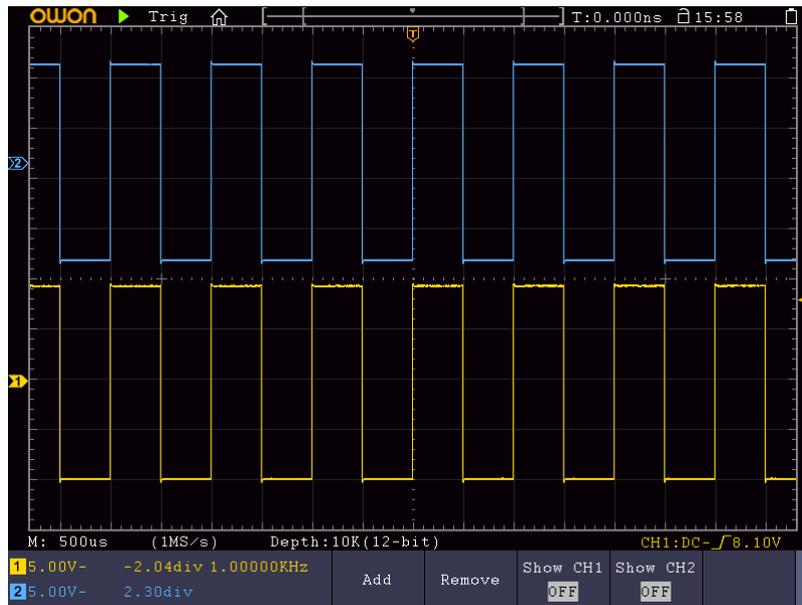

Figure 9-2 Waveform of Gain Measurement
- (1) Push the **Autoset** button and the oscilloscope will automatically adjust the waveforms of the two channels into the proper display state.
- (2) Push the **Measure** button to show the Measure menu.
- (3) Select **Add** in the bottom menu.
- (4) In the right menu, select **CH1** in the **Source** menu item.
- (5) In the left Type menu, turn the **M** knob to select **PK-PK**.
- (6) In the right menu, select **Add**. The peak-to-peak type of CH1 is added.
- (7) In the right menu, select **CH2** in the **Source** menu item.
- (8) In the left Type menu, turn the **M** knob to select **PK-PK**.
- (9) In the right menu, select **Add**. The peak-to-peak type of CH2 is added.
- (10) Read the peak-to-peak voltages of Channel 1 and Channel 2 from the bottom left of the screen (see Figure 9-2).
- (11) Calculate the amplifier gain with the following formulas.